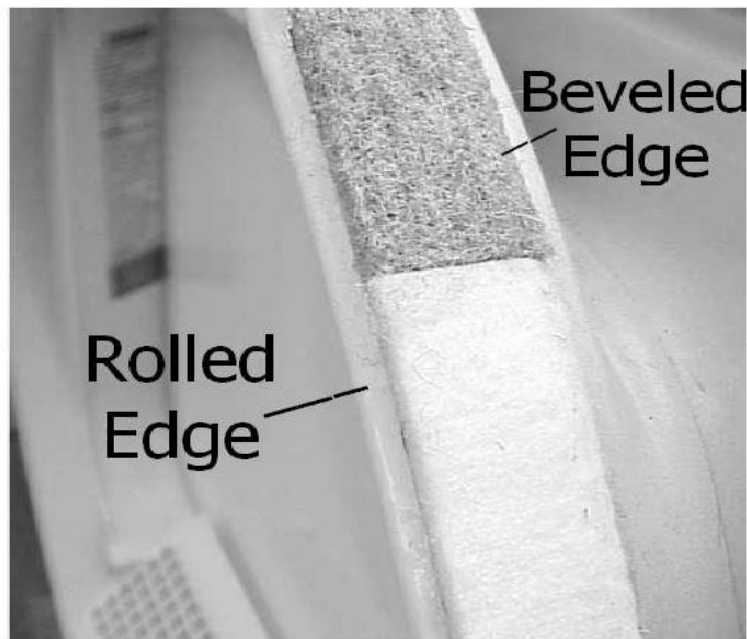

Figure 1
- 5) Reinstall the upper felt and lower felt with the beveled edge away from the rolled edge of the front panel opening and press in place (Figure 1).